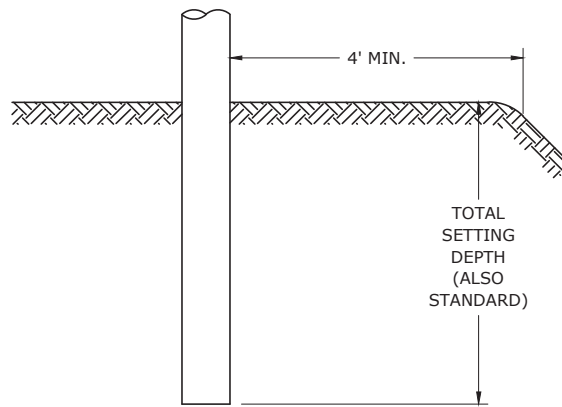

FIGURE 3
3. IF LEVEL GROUND EXTENDS 4' FROM NEAR EDGE OF POLE, POLE MAY BE SET STANDARD DEPTH (FIGURE 3).